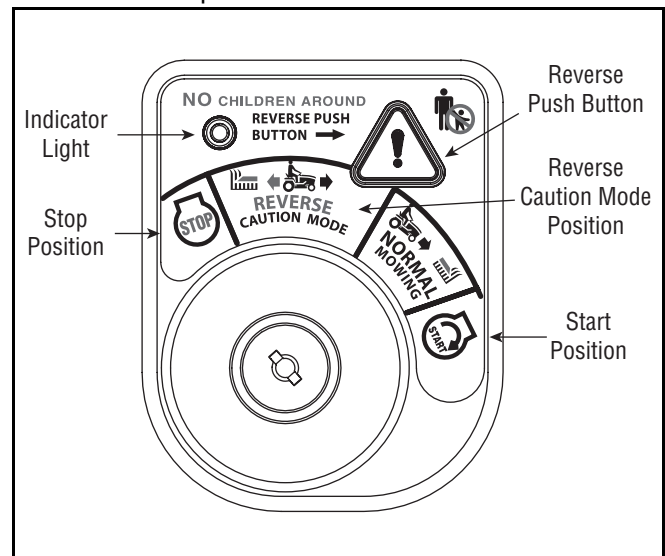

Figure 5
2. Turn the key from the **NORMAL MOWING** (Green) position to the **REVERSE CAUTION MODE** (Yellow) position of the key switch module. See Figure 5.
3. Depress the **REVERSE PUSH BUTTON** (Orange, Triangular Button) at the top, right corner of the key switch module. The red indicator light at the top, left corner of the key switch module will be **ON** while activated. See Figure 5.